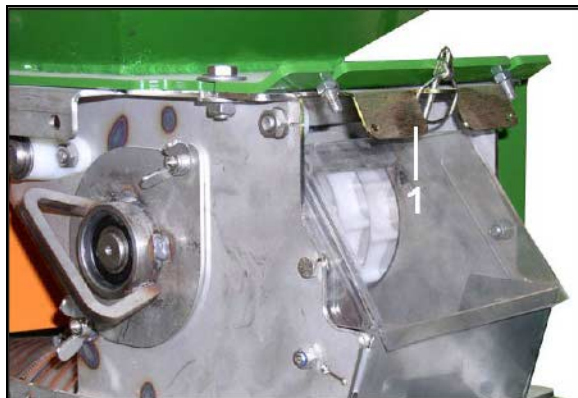

Fig. 114
4. Remove the road safety bars (Fig. 114/3).